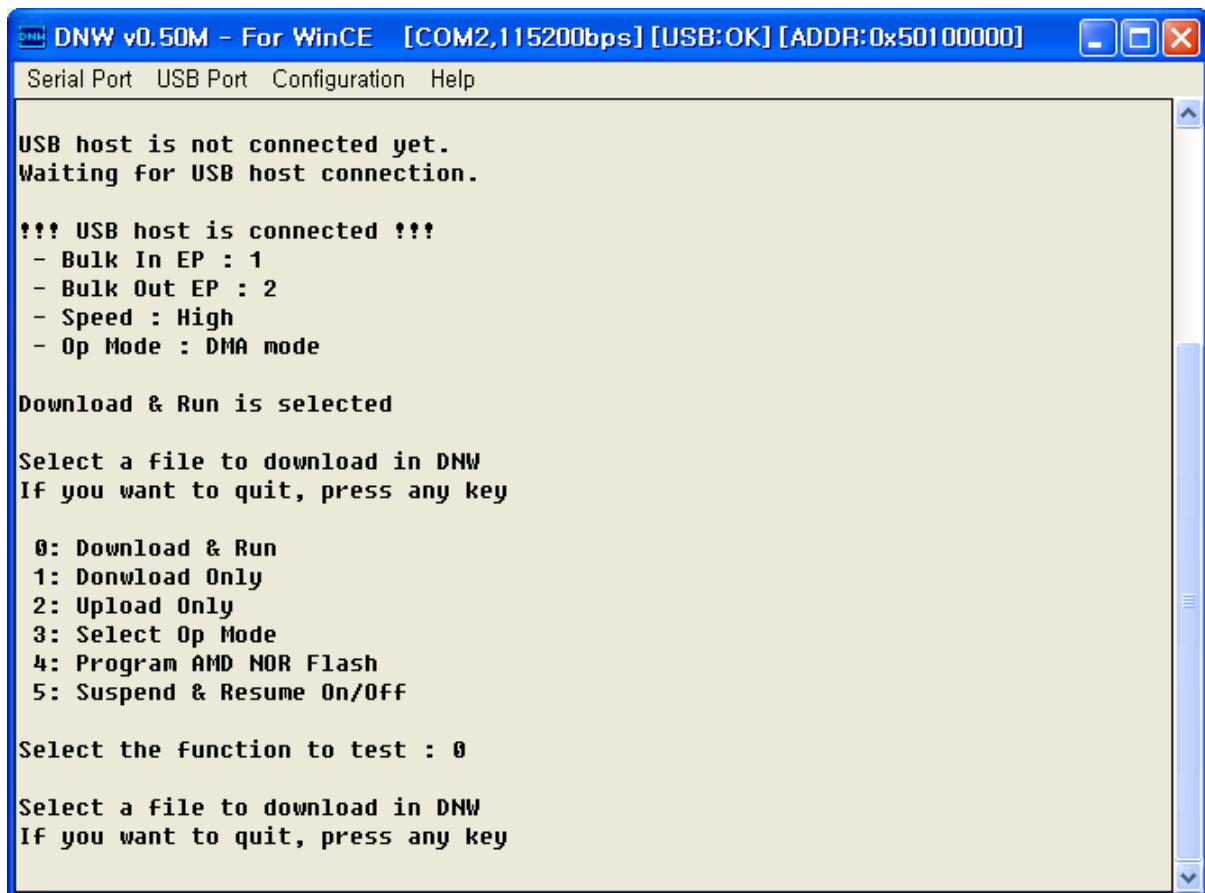

Figure 5-5 Download & Run
8. Enter 0 to download and run the Image on the board. DNW window appears as shown in figure 5-5.